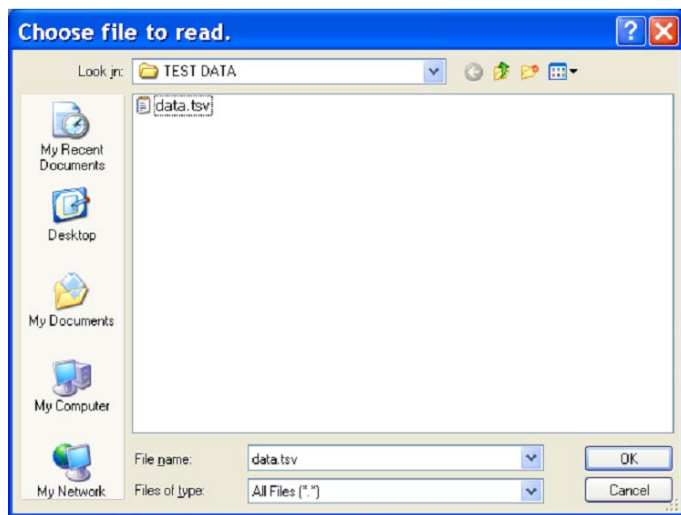

Figure 16. Load File Dialog Box:
- **Load data:** load previously captured data or example files in .tsv (tab separated values) format for analysis (see Figure 16). (The default location for the example files is **C:\Program Files\Analog Devices\AD7490\examples.**)